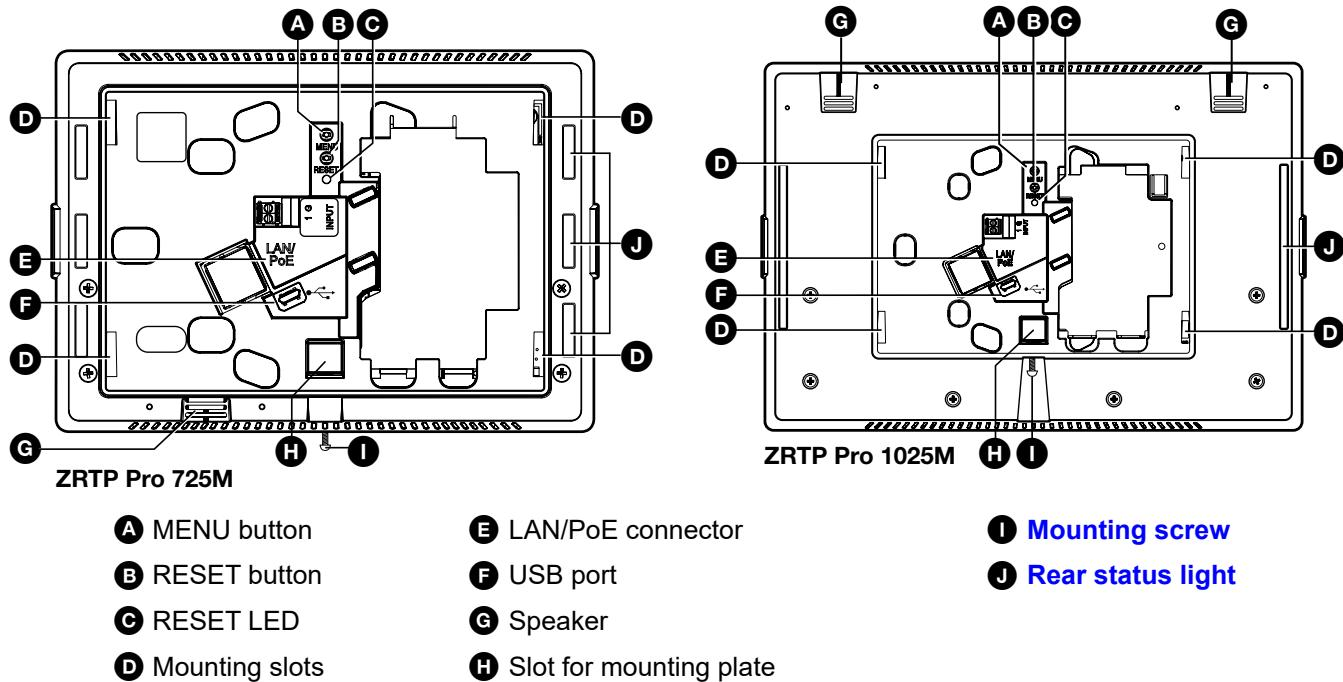

Figure 3. Z RTP Pro 725M (top), 1025M (bottom left) and 725T (bottom right) Rear Panels
- Ⓐ **MENU button** (see figure 3) — Allows user to enter or exit the system settings.
- I** **Mounting screw** (see figure 3 on page 5) — Tightens against the tongue of the mounting plate to secure the touchpanel (see Mounting the Z RTP Pro 725 and 1025M).